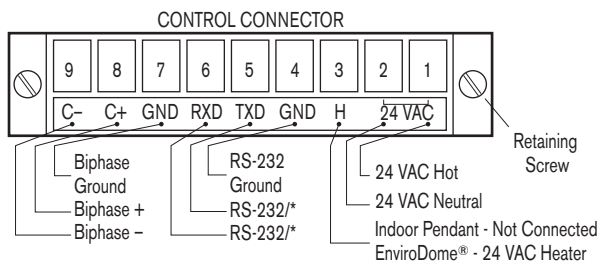

Figure 1
- 4.3.7. Wire the 9-pin connector as shown in FIGURE 1.
*If the internal slide switch (see FIGURE 1, at left), is set for RS-485 operation, then RXD function as DATA (+), and TXD functions as DATA (-).